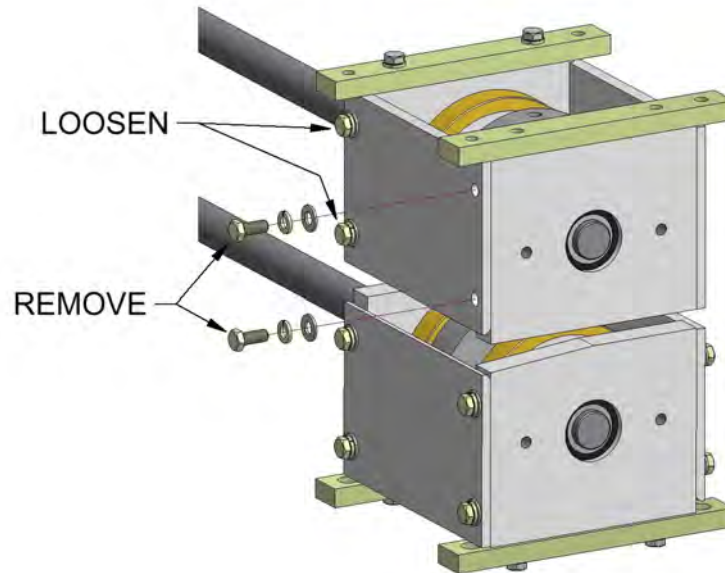

Fig. 8-4. Slitter Knife Removal Step 3
3. Remove the two bolts shown in **Fig. 8-4**, and loosen the two bolts shown in **Fig. 8-4**.